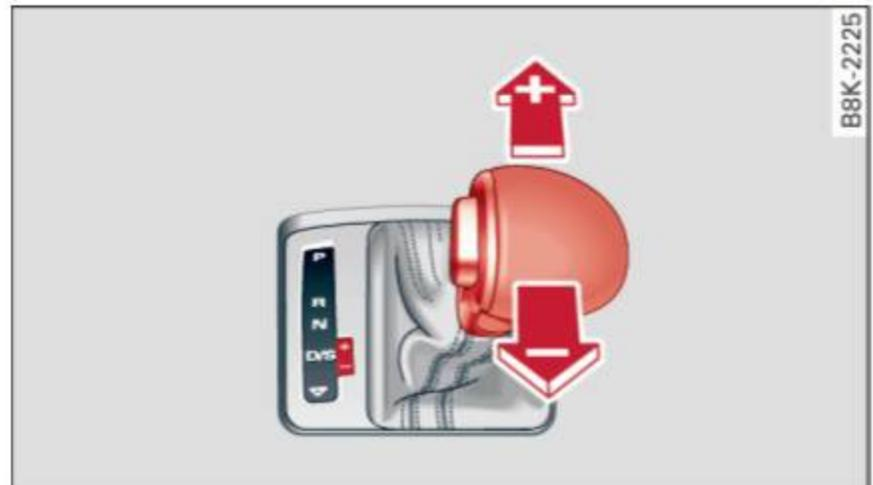

Fig. 89 Center console: shifting the gears manually
- ▶ To upshift, push the selector lever forward to the plus position ⊕ ⇒ fig. 89.